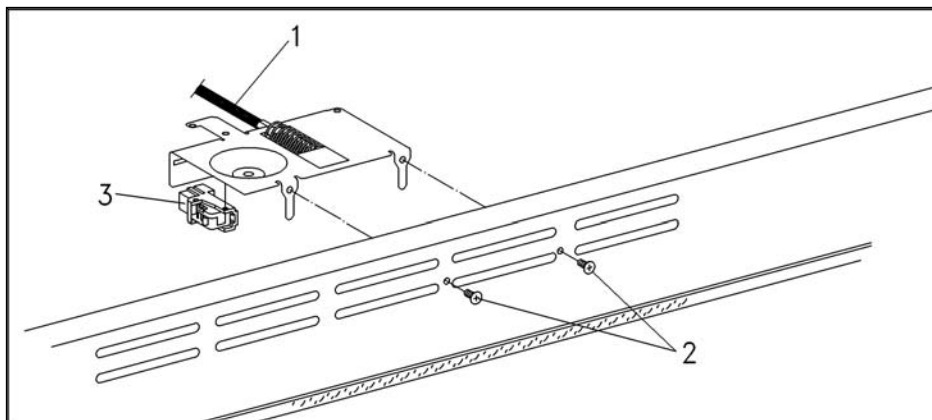

Figure 5-13 Door Latch Assembly
6. Refer to Figure 5-13. Remove the two screws that secure the Latch Assembly to the Cavity Assembly.